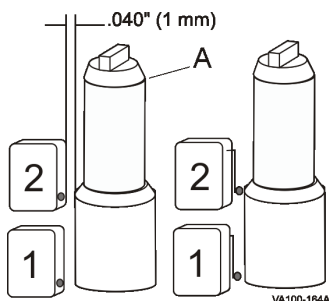

Figure 22: Valve Open Adjustment
3. With the stem raised, adjust the vertical height of the upper switch target to slightly below the stem shoulder (Figure 22). Tighten the cap screws securely.